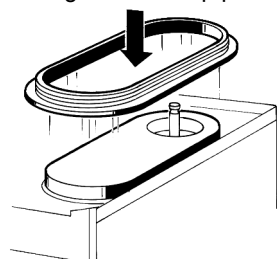

figure 7
- 4 Fit the bowl gasket to the evaporator. Note: the larger brim of the gasket must face against the drip plate (see figure 7).